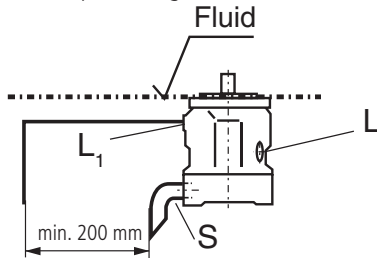

Fig. 1
a) If the minimum fluid level is equal to or above the pump mounting face close port "L" plugged, leave ports "L₁" and "S" open; L₁ piped and recommendation S piped (see Fig.1).